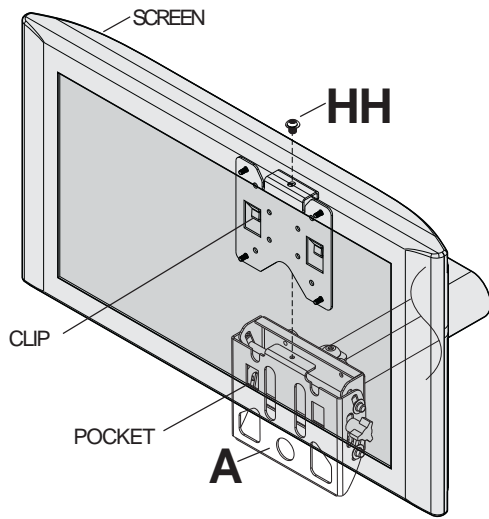

fig. 3.3
- 2 Remove phillips screw and replace with M5 x 6 mm socket pin screw (HH) to lock screen to wall mount as shown in figure 3.3.